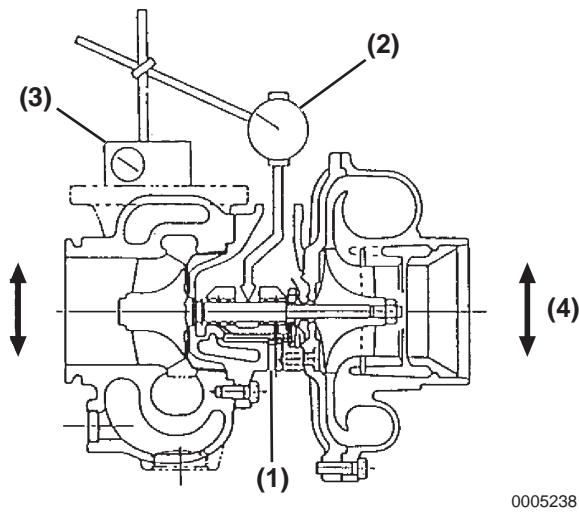

Figure 9-5
Note: Move the turbine shaft in a radial direction while moving simultaneously to the left and right sides (**Figure 9-5, (4)**).